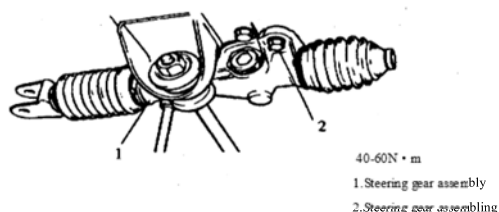

Fig.3.6-8
- 4) Fix the steering gear assembly on the body framework and screw the steering gear assembling bolts to the specified torque. Please refer to Fig.3.6-8.